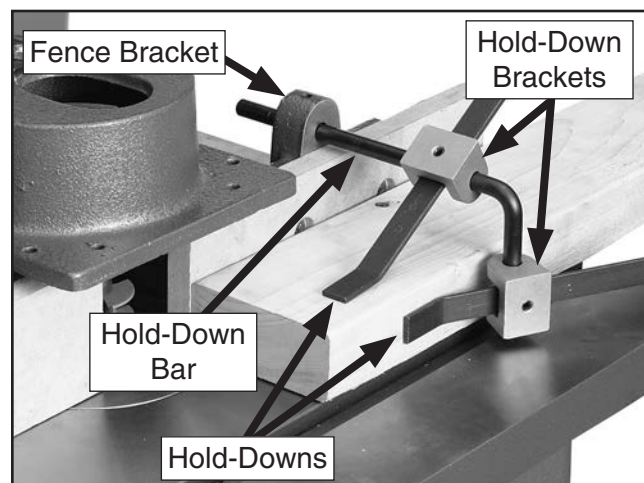

Figure 25. Use hold-downs from both sides.
Hold-downs are used to hold the workpiece flat on the table and snug against the fence, as shown in **Figure 25**.
- Slide each hold-down between a hold down bracket and hold down bar as shown in **Figure 25**.